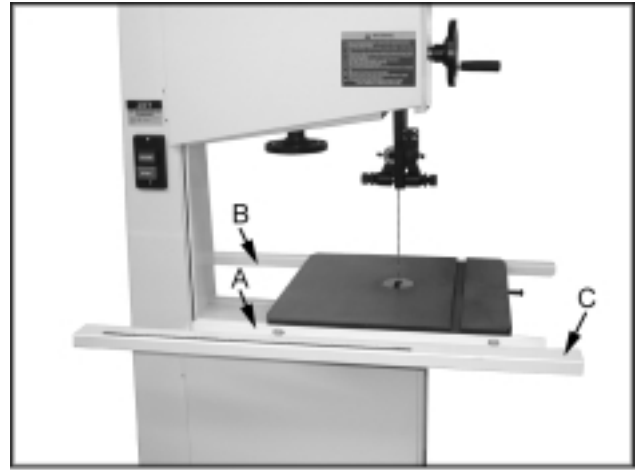

Fig. 8
1. Attach the front rail (A, Fig. 8) to the cast iron table with two 1/4" x 5/8" hex cap bolts, two 1/4" lock washers, and two 1/4" flat washers. Bolts should be in approximately the center of the slot. Hand tighten only at this time.
2. Attach the rear rail (B, Fig. 8) to the table with two 1/4" x 5/8" hex cap bolts, two 1/4" lock washers, and two 1/4" flat washers. Bolts should be in approximately the center of the slot. Hand tighten only at this time.
5. Attach the guide tube (C, Fig. 8) to the front rail with five 1/4" x 5/8" hex cap bolts, five 1/4" lock washers, and five 1/4" flat washers. Bolts should be in approximately the center of the slot.